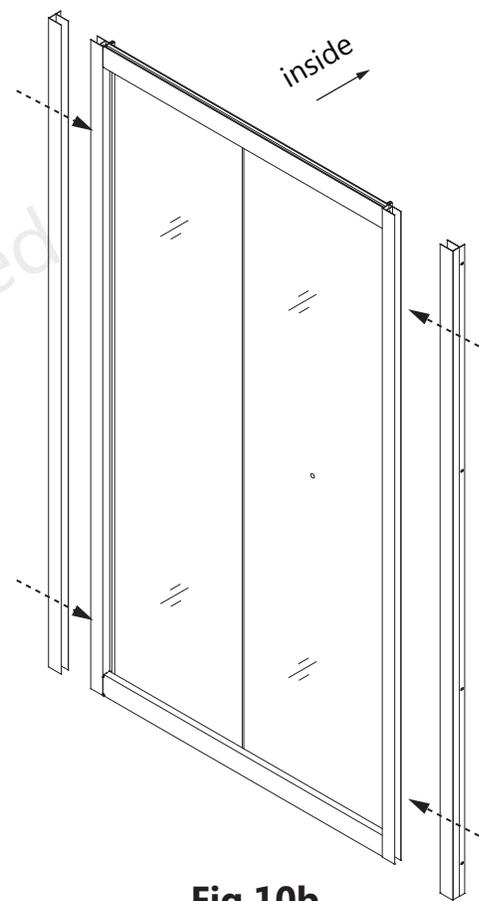

**Fig 9**
**9.** Secure the **Roller Stoppers (#16)** to the top and the bottom **Guide Rails (#03)** into the pre-drilled holes using the **ST4.2x10 Pan Head Screws (#07)**. (**Fig 9**)